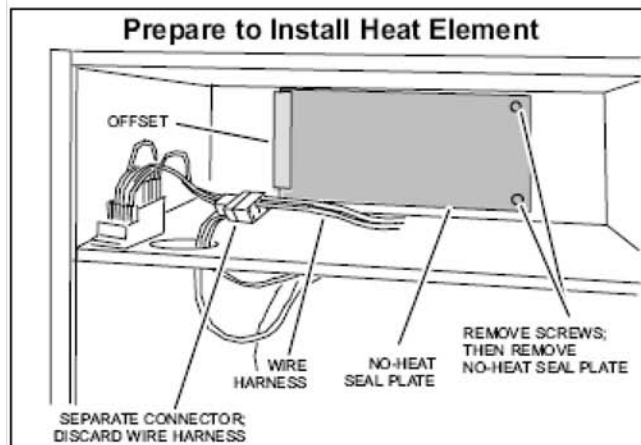

Figure 1
4. Remove the no-heat seal plate in the air handler frame. See figure 1.